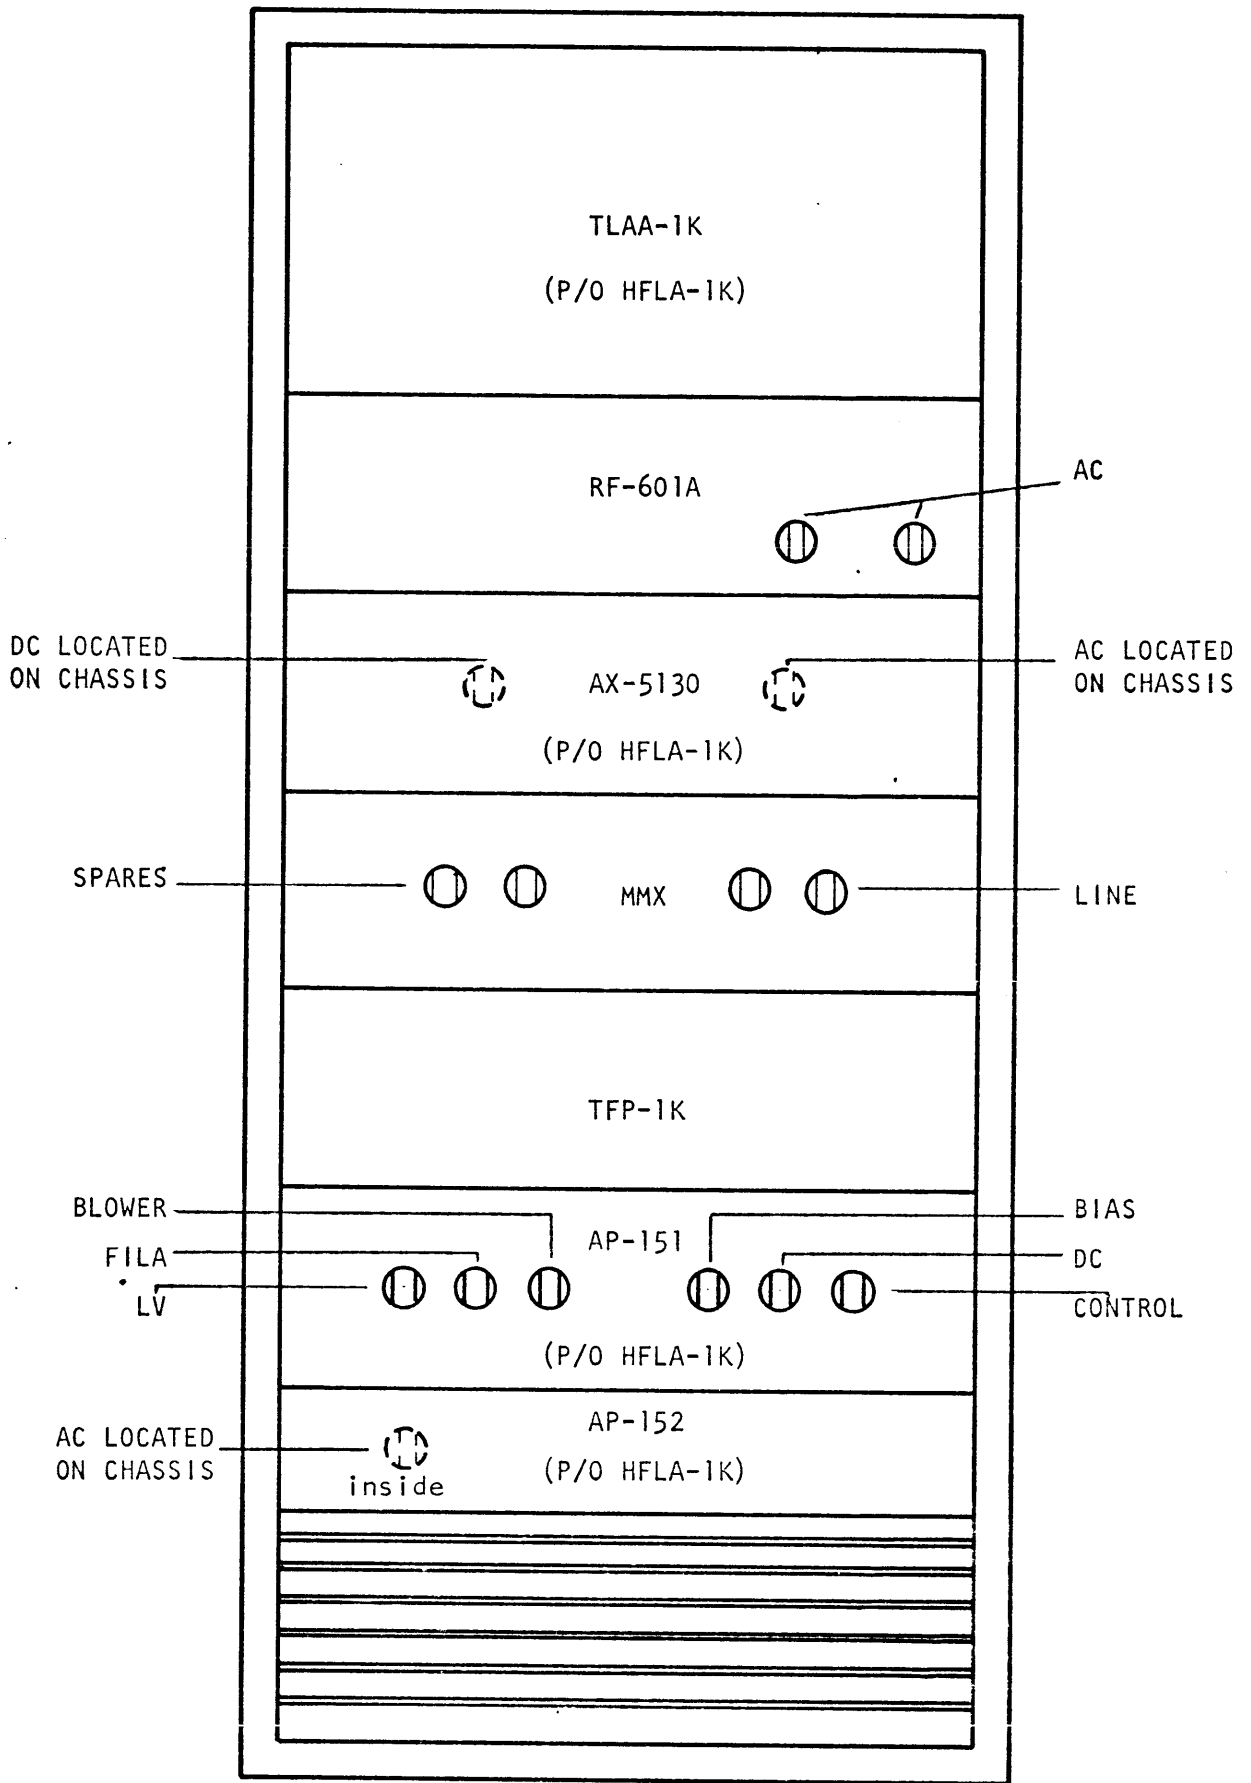

Figure 2-1. Fuse Location
1. Fuse Location Drawing (Figure 2-1)
Should a malfunction occur a visual check of fuses on the system must be performed. (All fuses are indicating type. Refer to Figure 2-1 and Table 2-2 for fuse location and functions).